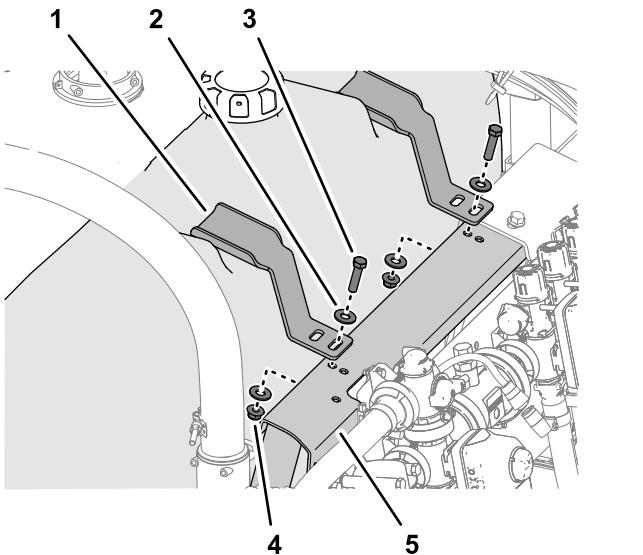

Figure 16
1. Align the hold-down bracket with the reliefs molded into the top of the rinse tank (Figure 16)
2. Align the slot in the hold-down bracket with the hole in the valve mount (Figure 16).
3. Loosely assemble the hold down to the valve mount (Figure 16) with a bolt (3/8 x 1-1/2 inches), 2 washers (3/8 inch), and a flange locknut (3/8 inch) that you removed in Removing the Rinse Tank \(page 5\).
4. Repeat steps 1 through 3 for the other hold down at the other recess in the rinse tank (Figure 16).